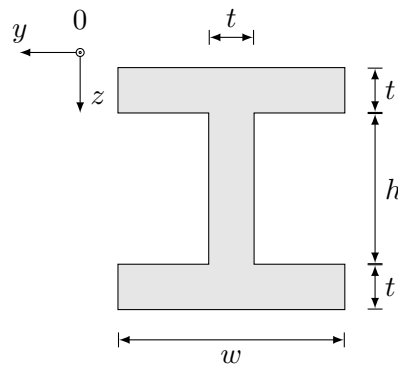

Figure 2: Cross-section of an H-beam.
- a) The cross-section of an H-beam is shown in fig. 2. Find the centroid and second moments of area I_y and I_z of the beam.